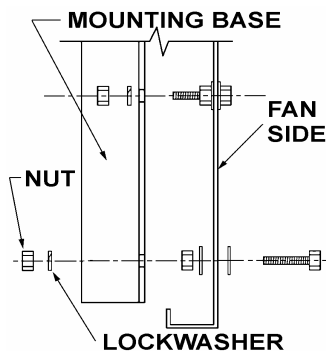

Figure 21 - Mounting Base Installation
2. Use 8 mm lockwashers and nuts to secure the mounting base to the unit (See Figure 21).